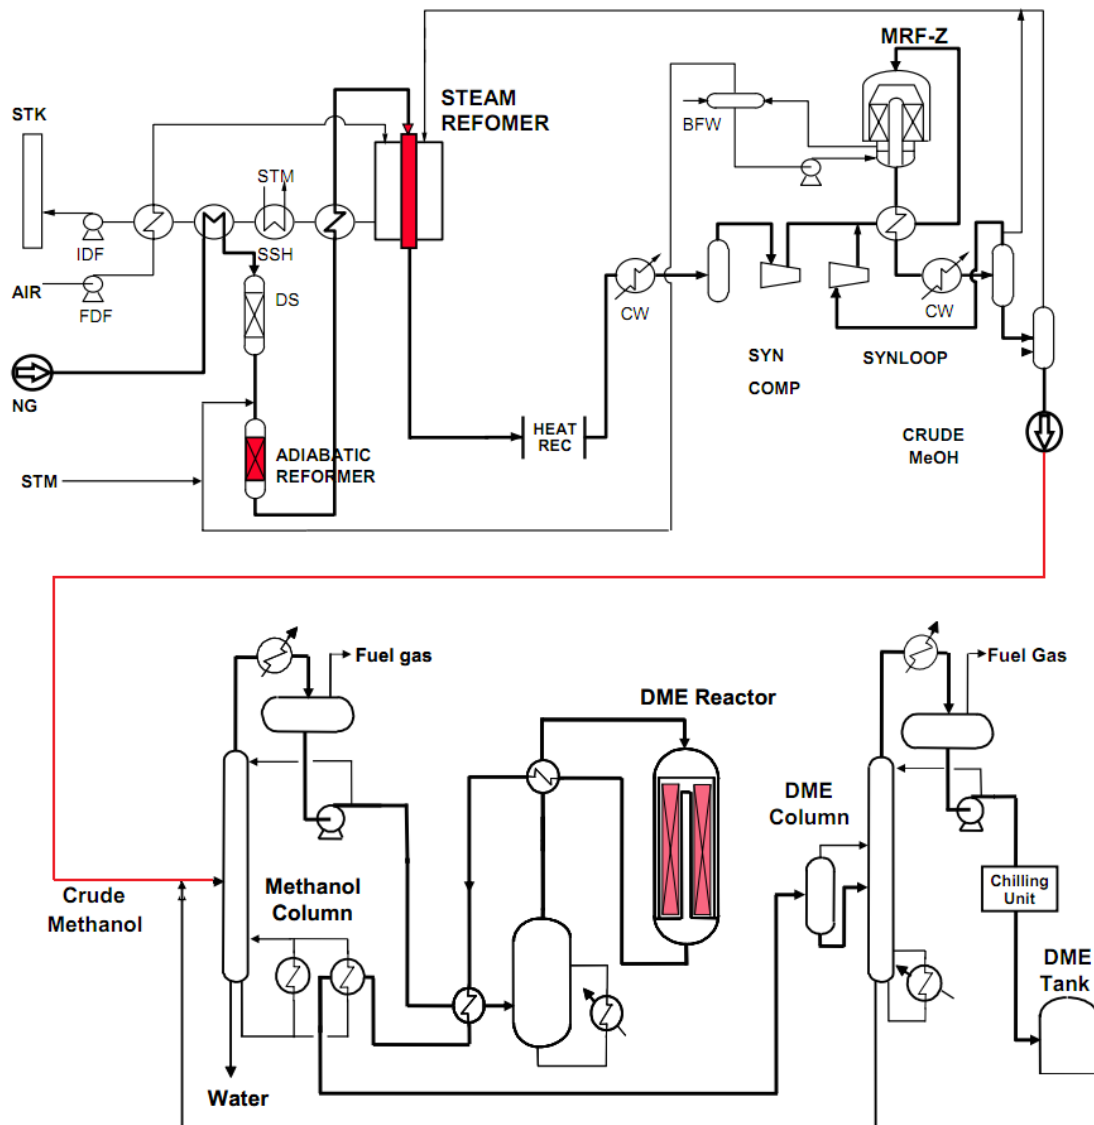

Figure 2-4: Indirect Production of DME (16).
The DME productivity and material utilization in a direct syngas-to-DME reactor is a strong function of the synthesis gas composition (13). F. Hayer et al. (13) studied the effect of H_2 : CO ratio on the DME synthesis reaction. As Fig.2-4 shows the DME selectivity and productivity decrease with increasing the ratio. According to the results a H_2 : CO ratio of 1 is optimum for DME selectivity but the ratio of 1–2 can be the optimum ratio for high productivity. However, high CO conversion can be obtained for the ratio of close to 2 or higher as long as DME synthesis equilibrium is not approached.